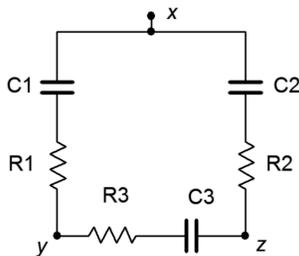

Figure 5.29
55. Determine the equivalent Y (T) network for the circuit of Figure 5.29.  $R_1 = R_2 = R_3 = 4\text{ k}\Omega$  and  $X_{C1} = X_{C2} = X_{C3} = -j3\text{ k}\Omega$ .